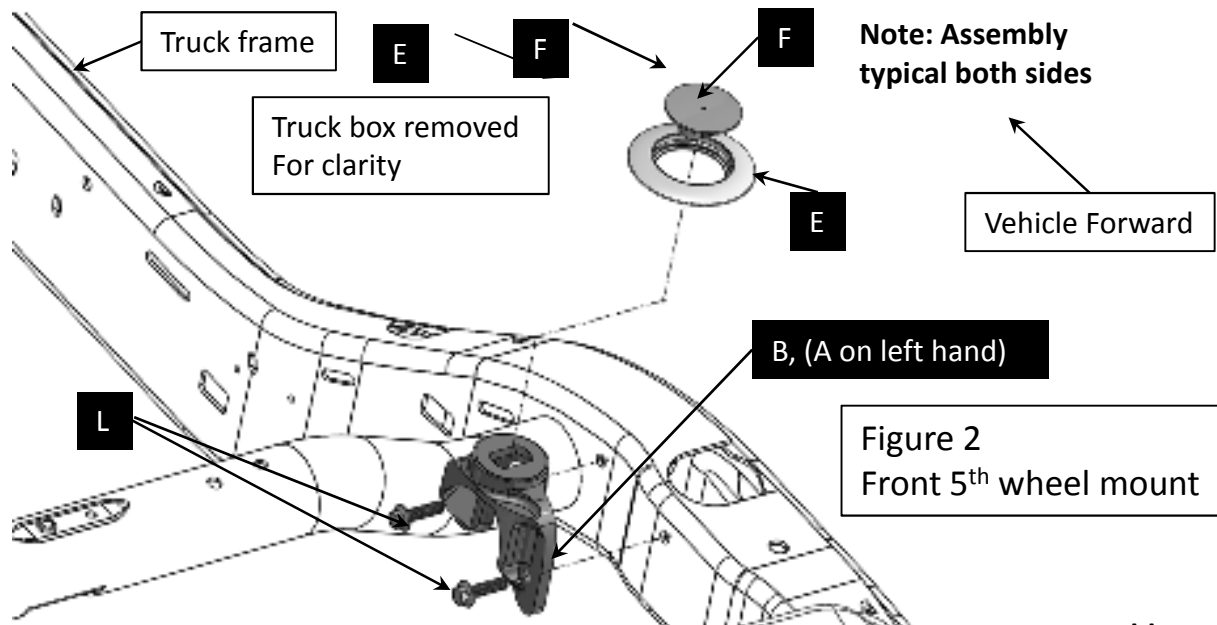

Figure 2
- 5) **Front Mounts** - Install part 'B' 5th wheel receiver-RH front in frame as shown in (Fig. 2), Use (2) M12-1.5x45mm bolts (part L) **NOTE ORIENTATION**.